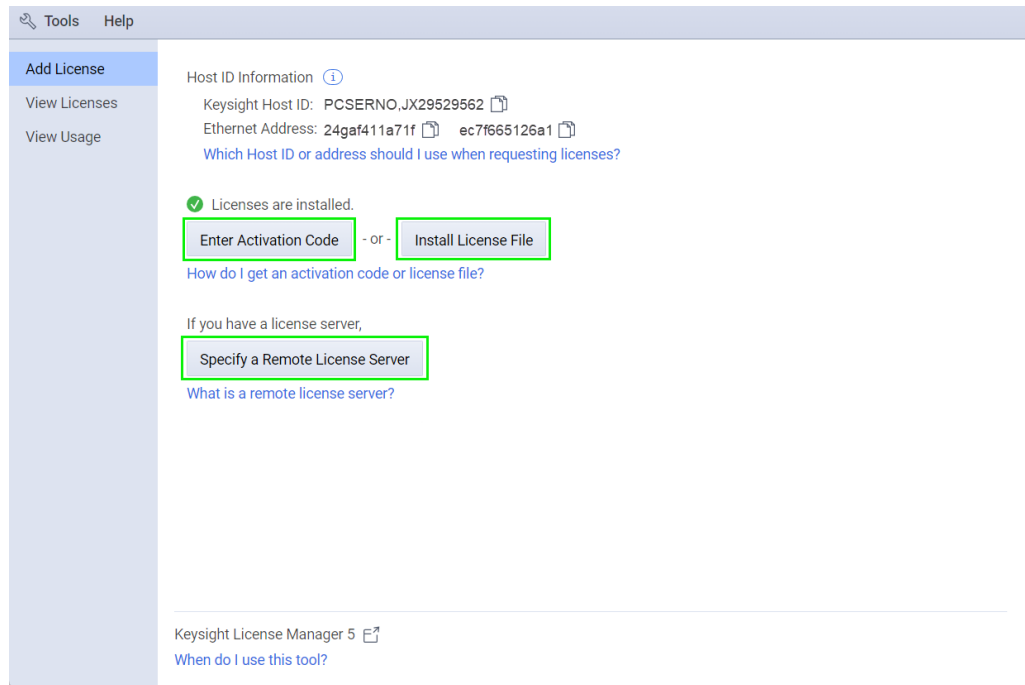

Figure 3 License installation options
- 3 In the **Add License** tab (Figure 3), use one of the options to install the license file.